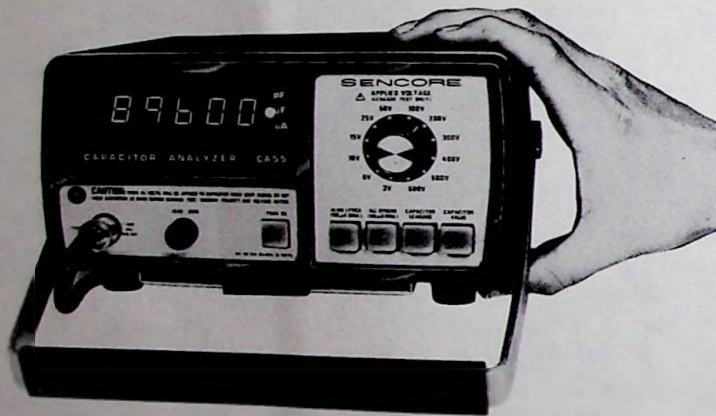

Fig. 4-26. Digital capacitor analyzer. (Courtesy Sencore, Inc.)
Checking capacitors in circuits, such as the apc circuit, is best done by removing one end of the capacitor and using a capacitor substitution box to replace the capacitor removed from the circuit. If the set performs well with the new component connected, the one removed must be bad—replace it with an exact replacement type. Capacitors can be analyzed with a digital analyzer (Fig. 4-26).
* TESTING OF TIMING AND YOKE CAPACITORS IS USUALLY BEST DONE BY REPLACEMENT UNLESS EXTREMELY ACCURATE DIGITAL CAPACITANCE TEST EQUIPMENT SUCH AS THAT SHOWN IN FIG. 4-26 IS USED. THESE CAPACITORS TIME THE RESONANCE OF THE CIRCUIT AND IF THE FREQUENCY IS OFF, THE HIGH VOLTAGE MAY WELL BE INSUFFICIENT.